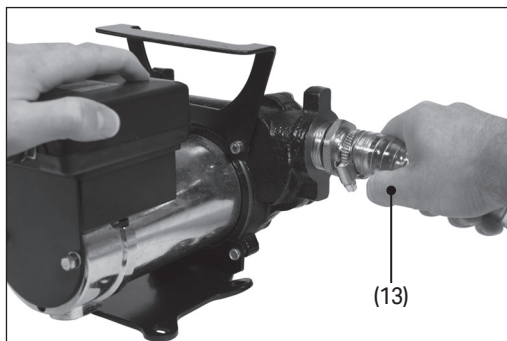

Fig. 2
- b. Attach one end of the inlet hose to the pump inlet (13), marked with **IN** around the opening on the pump (Fig. 2).